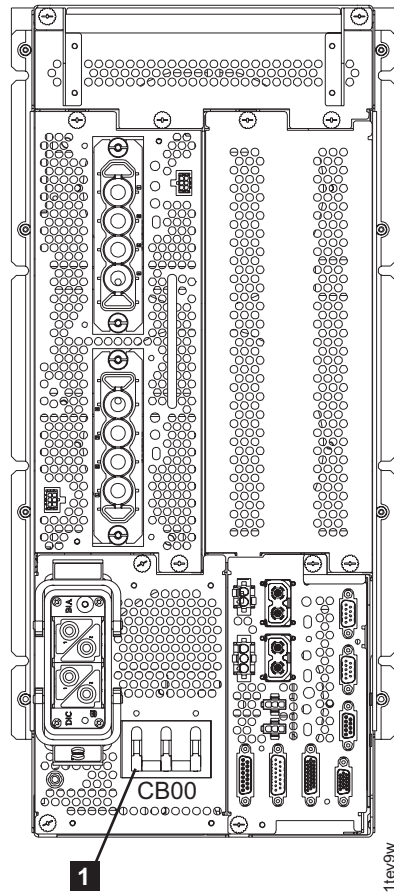

Figure 71. Rear view of PPS showing CB00
3. Verify the MAIN LINE circuit breaker **1** (CB00) on the rear of each primary power supply is set to Off (down). Refer to Figure 71 on page 87.